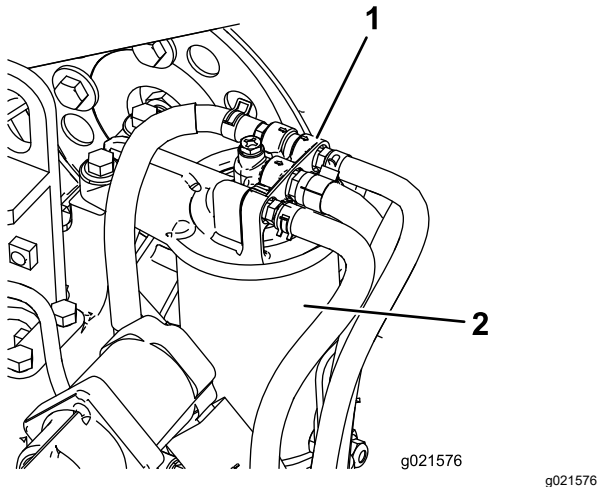

Figure 87
1. Clean the area around the fuel-filter head (Figure 87).
2. Remove the filter and clean the filter-head mounting surface (Figure 87).